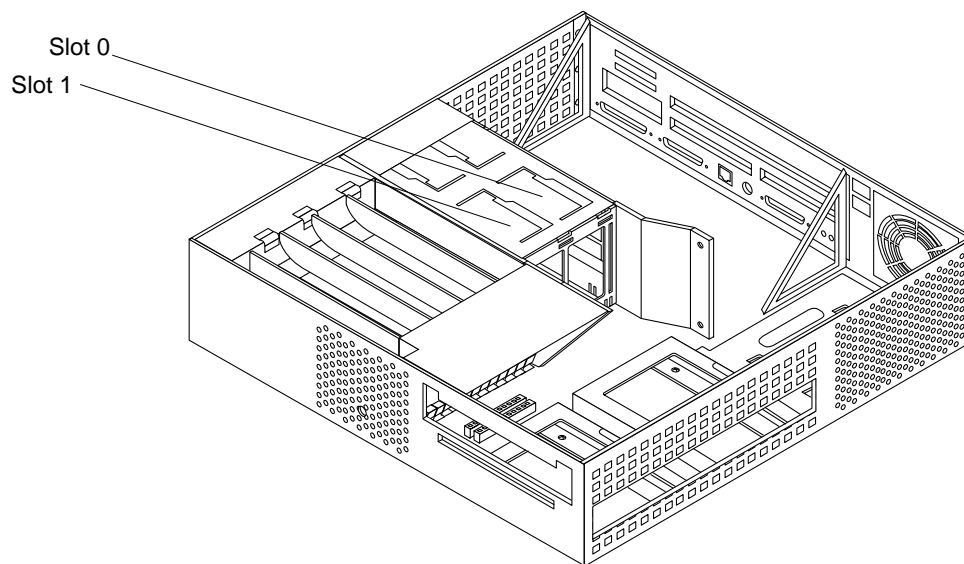

Figure 4-1 UltraSPARC Module Locations and Shroud-Assembly Processor Area
1. Grip the sides of the shroud-assembly processor area (Figure 4-1).